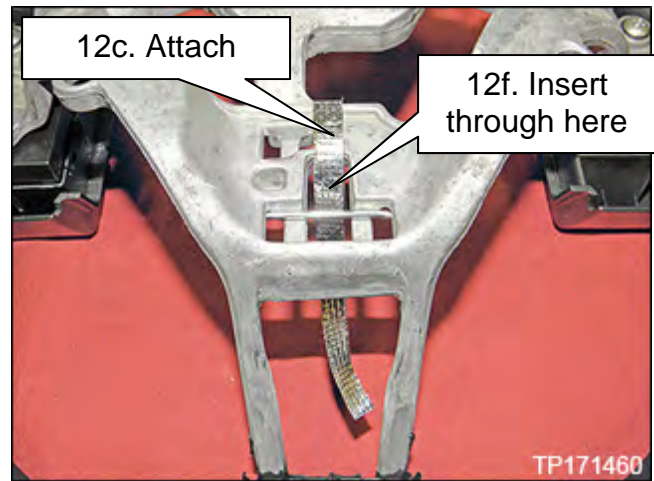

Figure 11
- c. Insert the aluminum tape through the steering wheel hole as shown in Figure 11.